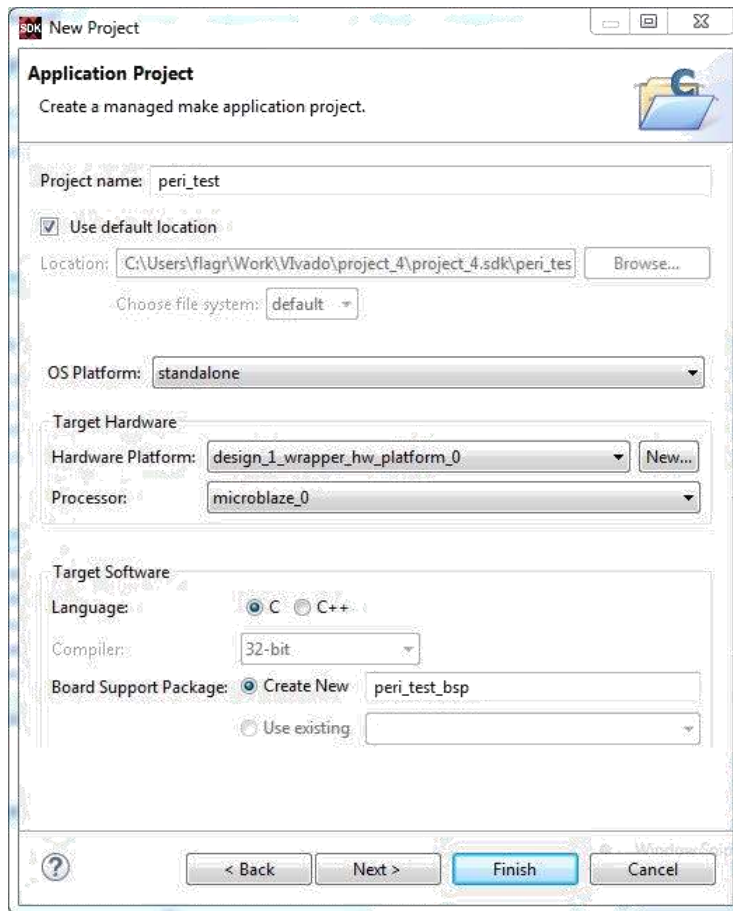

Figure 37: New Project: Application Project Wizard
4. Type a name (such as peri test) for your project and choose standalone as OS platform, as shown in Figure 37.